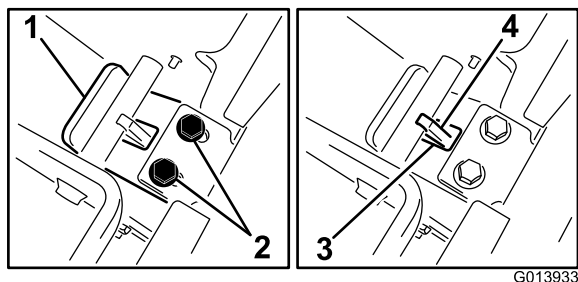

Figure 9
2. While maintaining the pressure on the back plate, slide the tongue toward you until the lip of the tongue plate contacts the crossbar (Figure 9).